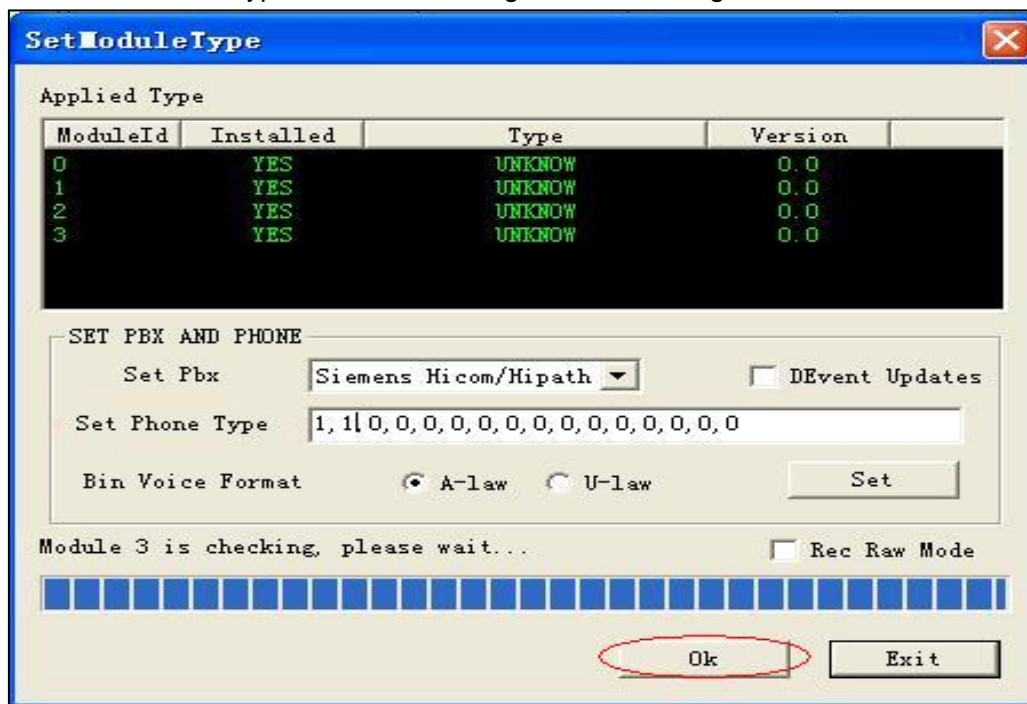
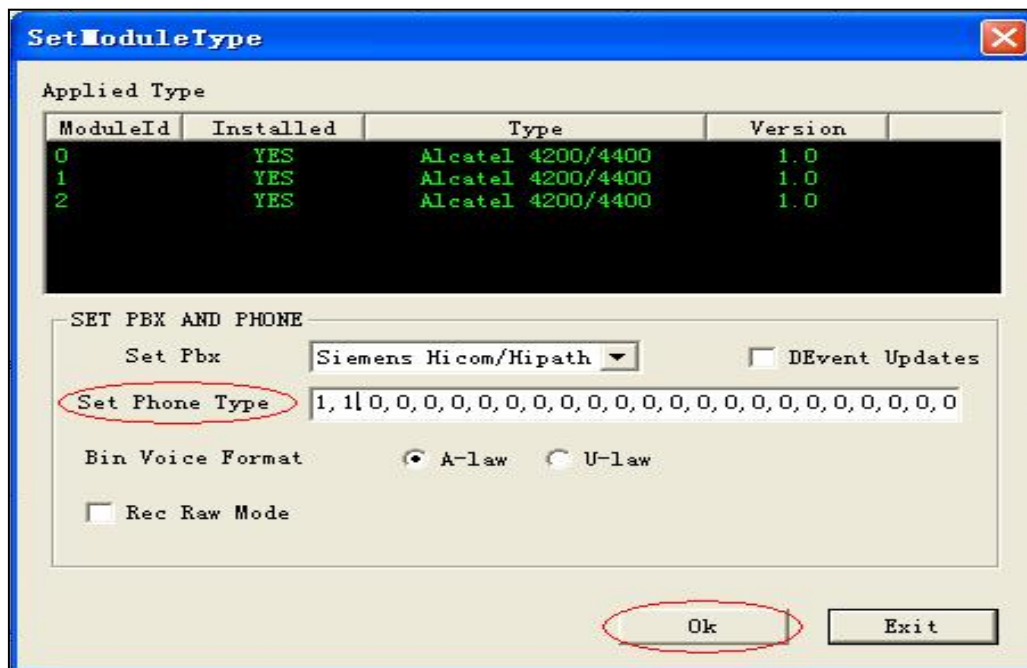

Figure 2-10 For A-type Boards
Figure 2-11 For B-type Boards
Step 8 : After setting the phone model, click the button 'Ok' to exit the dialog 'SetModuleType' as shown in Figure 2-10 and Figure 2-11.